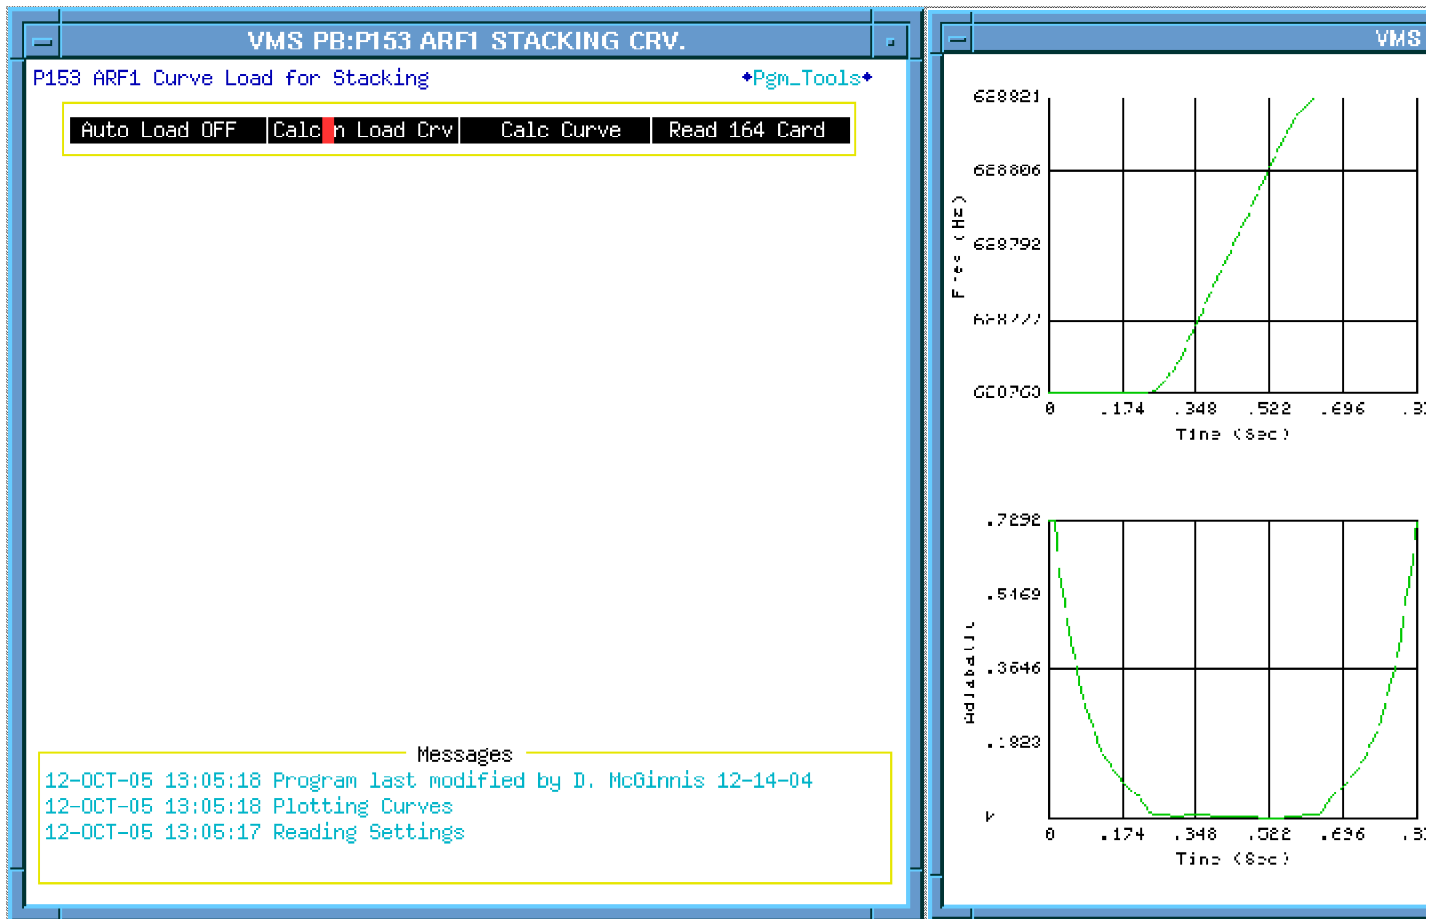

Figure 25: To send out your change to the pickup frequency, A:R1FINJ, open P153 and then click on "Calc n Load Crv."
11. To send out the new pickup frequency value, go to P153 and click on "Calc n Load Crv" as shown in Figure 25.